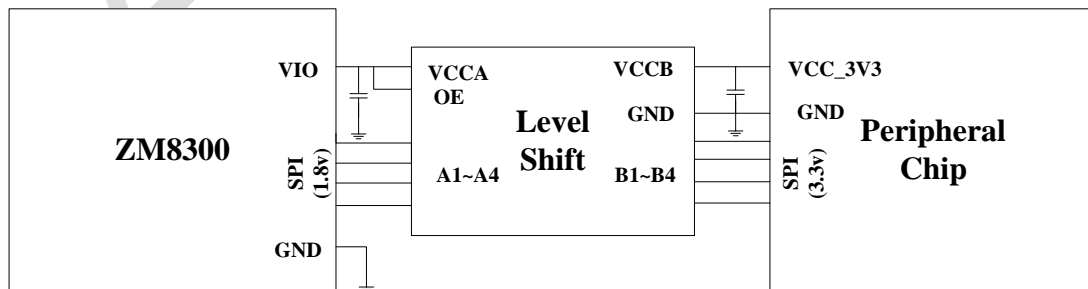

Figure 3-11 SPI Level Conversion Circuit
- 3) The SPI interface provided by the ZM8300G module is a 1.8 V IO interface. If the ZM8300G module needs to work with a peripheral that uses a different level, add a level conversion circuit. Figure 3-11 illustrates the recommended level conversion circuit. The level conversion chip (TI: TXB0104RUTR) is recommended.